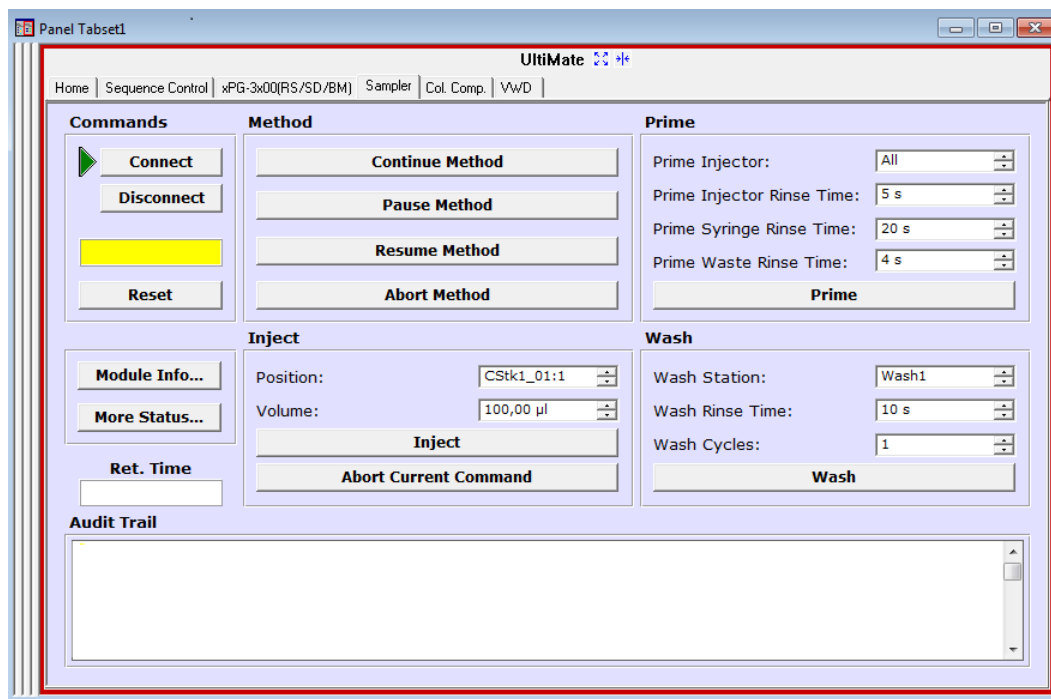

Fig. 46: Autosampler control panel on the Panel Tabset
2. On the **Panel Tabset** for your timebase, click the **Sampler** page (→ Fig. 46).